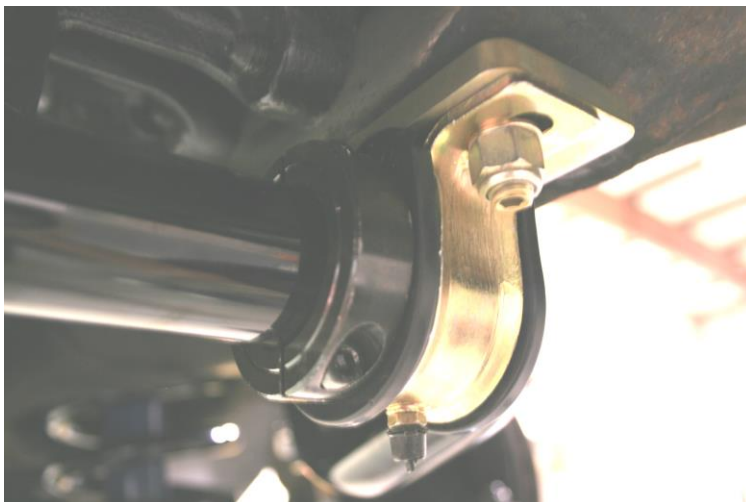

Figure 3 - Split Collar Clamp Installed
8. Separate the Split Lock Collar into two pieces and place around the sway bar to the inside of the sway bar clamps. Reassemble the collar using High Strength Loctite on the bolts and torque to 15 ft-lbs. **NOTE:** Position the collars tight to the urethane bushing when installing. Figure 3 below shows the collar installed.